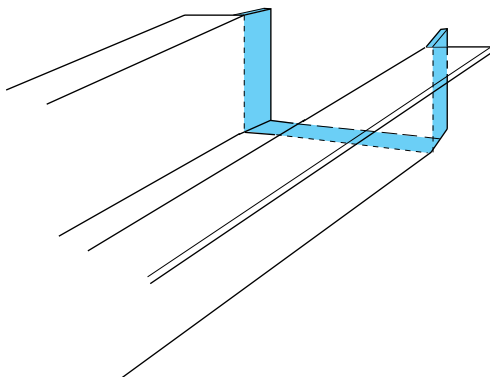

Fig. 1-24 — Step Tabs Inward on the New Rail Section
- Step the tabs inward to allow the service rail to fit inside the original rail (Fig. 1-24).